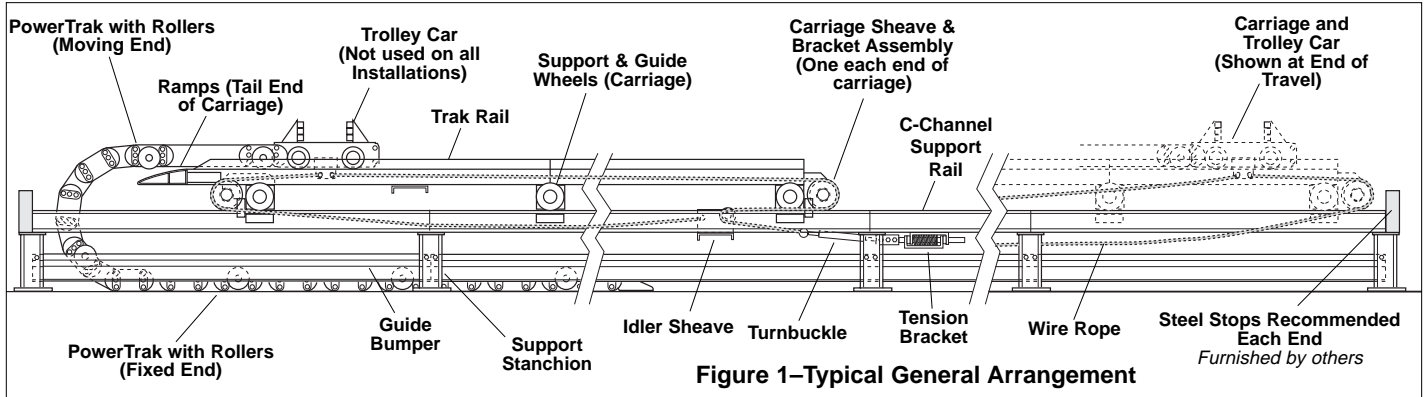
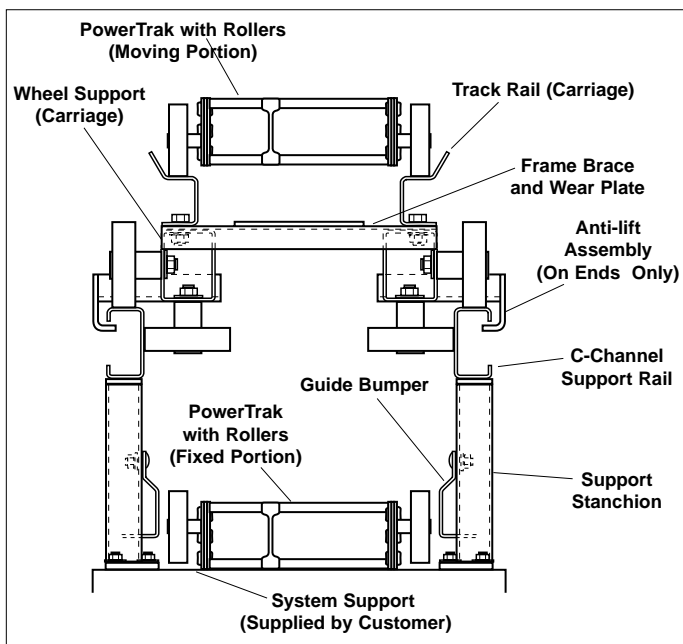

Figure 1—Typical General Arrangement
Figure 2—Typical Section View
The type 225 PowerTrak Carriage System is designed to allow high acceleration and velocity of PowerTrak Carrier Chains with low towing forces and maximum PowerTrak life. The system consists of a stationary C-channel rail supporting a rolling carriage. The carriage consists of Trak rail with numerous wheel assemblies which support and guide the carriage on the C-channel rail. Rollers on the PowerTrak links ride in the Trak rail. The carriage moves half as far and half as fast as the moving end of the PowerTrak. Carriage movement is controlled by cables running around sheaves at each end of the carriage. Please see Figure 1 and Figure 2 and the General Arrangement Print specific to your installation.
This movable carriage may present a drop hazard when operated in elevated locations. It is recommended that a metal stop be installed at each end of the support tray or rails to prevent the carriage from rolling beyond the ends of the support should a wire rope or chain fail. See Fig 1.
1) Temporarily fix trolley car at location shown in Figure 1.
3) Attach both wire ropes to anchor beneath trolley car. Run one rope each way to ends of carriage, around sheave and back toward idler bracket on C-Channel rail. Refer to Figure 1.